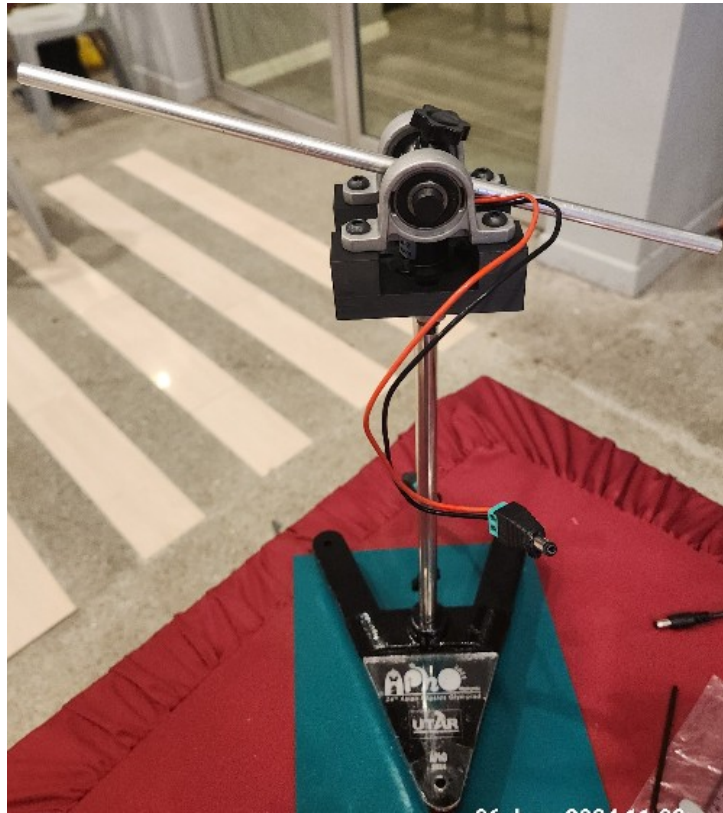

Figure 2
- 6) Insert the aluminum tube through the center shaft and lock it tightly with star knob provided. Your setup should look like Figure 2.